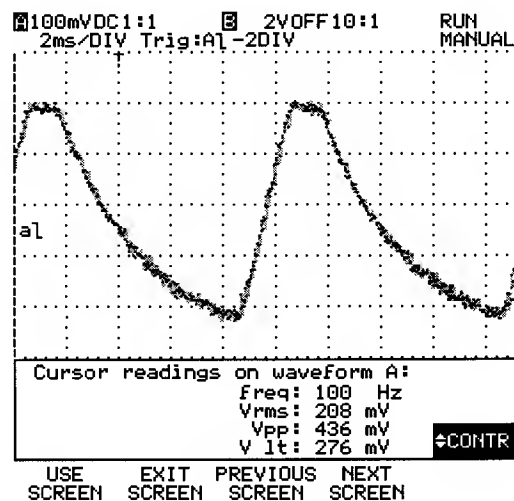

Figure2 Sonopuls 464 switched on.
- Switch on the unit and see figure 2 for waveform with the Sonopuls 464 switched on.